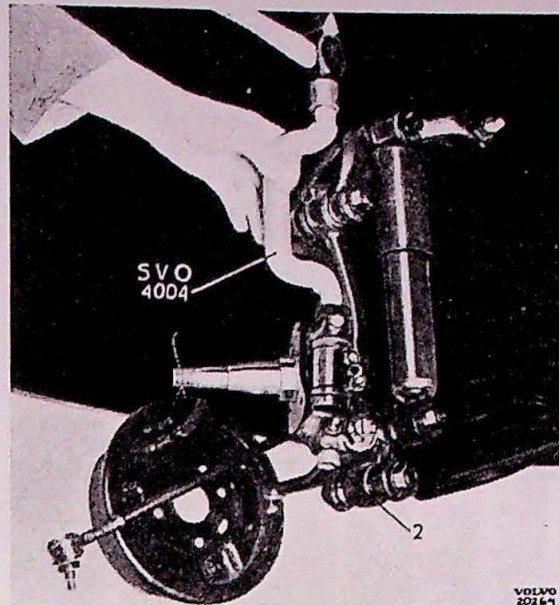

Fig. 11.
7. Drive out king pin downwards. Use driver SVO 4004 with extension SVO 4004 A (fig. 11).